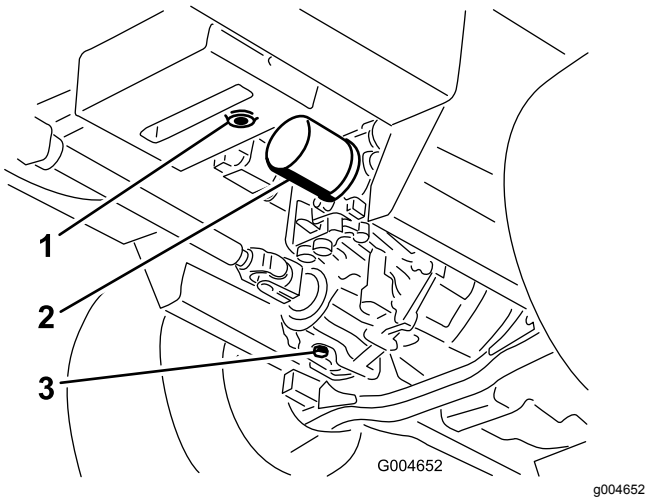

Figure 93
3. Place a large pan under the hydraulic reservoir and transmission case and remove the plugs, draining all of the hydraulic fluid (Figure 93).
4. Clean the area around the hydraulic fluid filter and remove the filter (Figure 93).